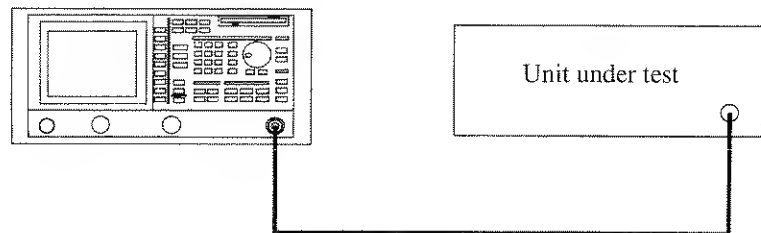

Figure 2-90 Setup for Measuring the Spectrum Mask
1. Connect the instrument as shown in Figure 2-90.